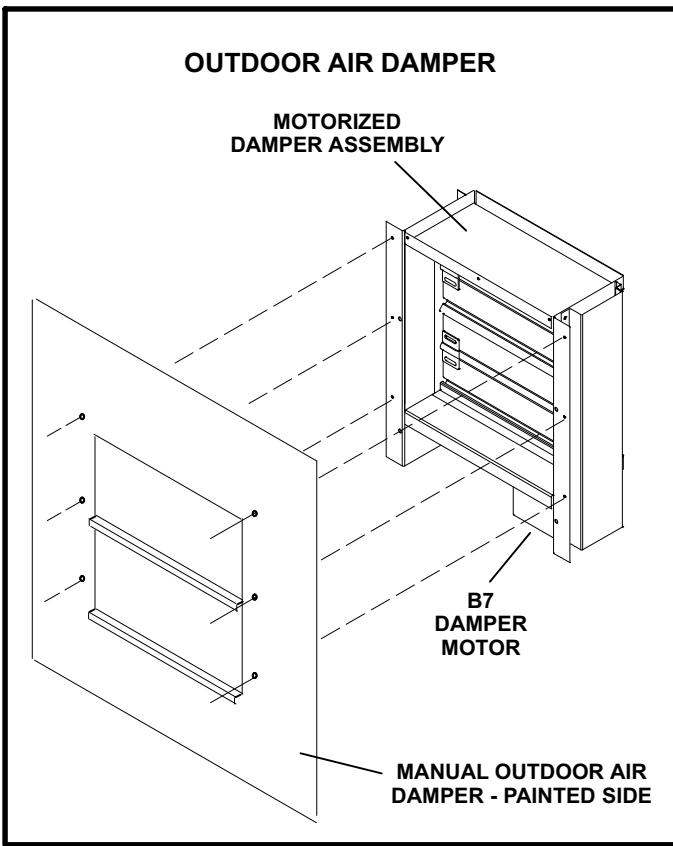

FIGURE 17
T1DAMP11A-1 is available for KHA024, 030 036, 048 units and T1DAMP11N-1 is available for the KHA060S. Both sets include the outdoor air hood. A motorized kit (T1DAMP21AN1) can be ordered separately for all KHA unit sizes. The dampers may be manually or motor (M) operated to allow up to 25 percent outside air into the system at all times (see figure 17). Washable filter supplied with the outdoor air dampers can be cleaned with water and a mild detergent. It should be sprayed with Filter Handicoater when dry prior to reinstallation. Filter Handicoater is R.P. Products coating no. 418 and is available as Lennox Part No. P-8-5069.